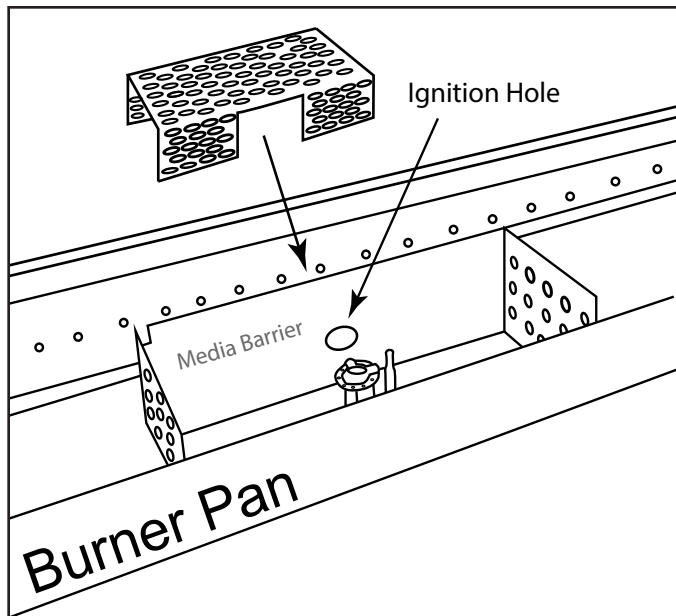

Fig. 30 Installing ignition screen.
**Step 21:** Install ignition screen (from parts box) overtop of the burner tube with the cutout area centered behind the pilot box ignition hole as shown in Fig. 30. The ignition screen sit on top of the burner tube.